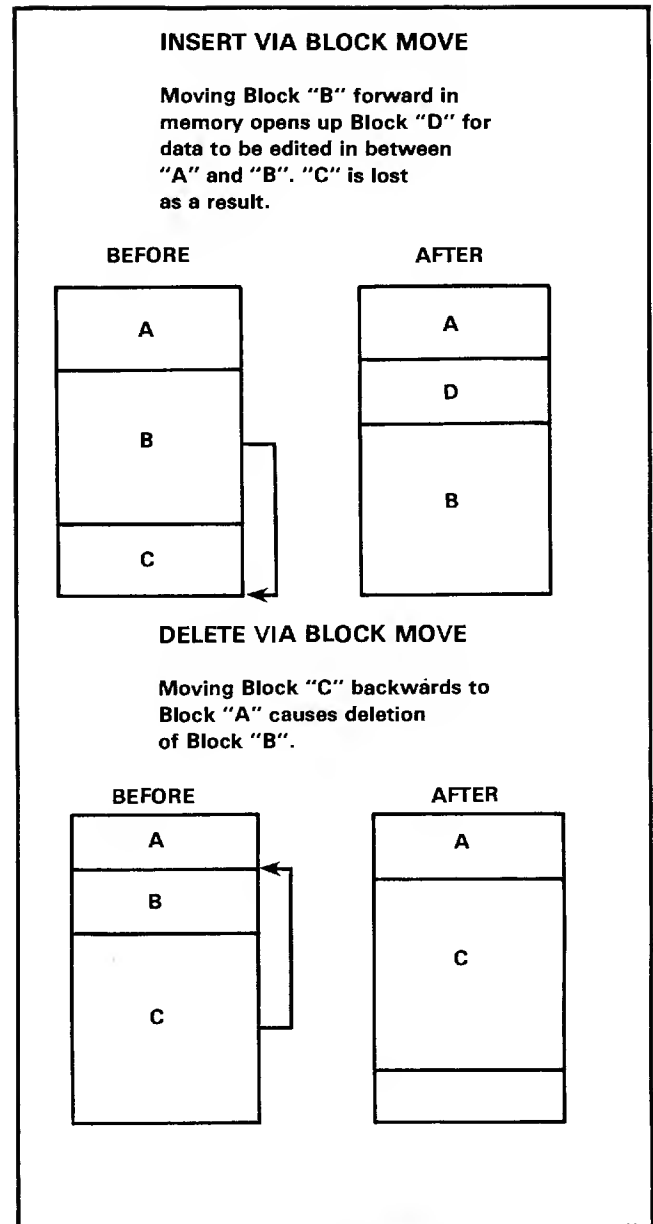

Figure 1-2. Block Move
**BLOCK MOVE.** A Block move is accomplished by using the COPY key. In a Block Move, blocks of data within RAM can be rearranged. Refer to figure 1-2.